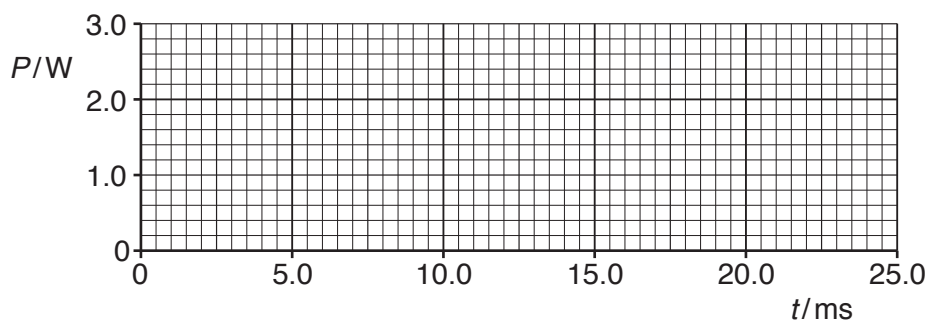

Fig. 9.3
- (ii) On Fig. 9.3, sketch the variation with time t of the power P dissipated in the resistor for $t = 0$ to $t = 22.5$ ms.